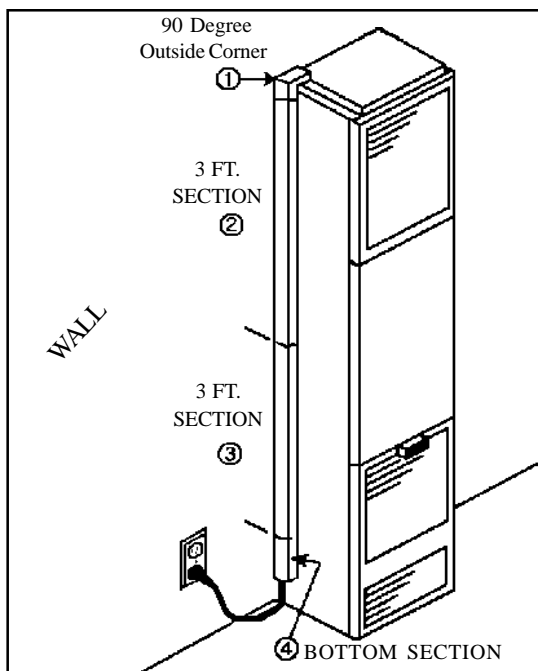

FIGURE 18
- STEP 11.** Snap 90 Degree outside corner (Ref. 1) onto 3 ft. section (Ref. 2) plastic raceway. Insert power cord and remove blue backing from adhesive strip on raceway and apply to side of heater. See Figure 18.
- STEP 12.** Insert power cord into second 3 ft. section of raceway (Ref. 3) and remove blue backing and apply to side of heater, butting up against bottom of other section. See Fig. 18.
- STEP 13.** Cut 14 inch long bottom section to required length (see chart), insert power cord, remove backing and apply to side of heater. See Fig. 18.
- STEP 14.** Plug power cord into wall receptacle, see Fig. 18.